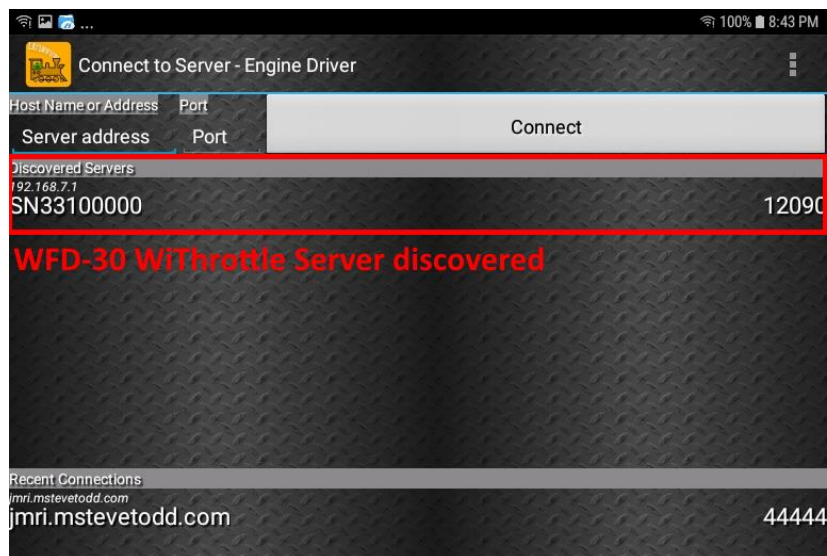

Figure 17 The WFD-30 WiThrottle Server is discovered by the Engine Driver app on Android
- (8) On the Apps find the Engine Driver app icon – you may have to swipe right - (for convenience you could add a shortcut to your Home Screen), then tap it:
- (9) Go through the setup sequence, accepting all the defaults and allowing the required privileges.
- (10) After setup, you should see the “Connect to Server” page with your WFD-30 listed as a “Discovered Server” as Figure 17. Tap on it to connect. The green network LED on your WFD-30 should now flash regularly to show that the UWT-100 is communicating with it.